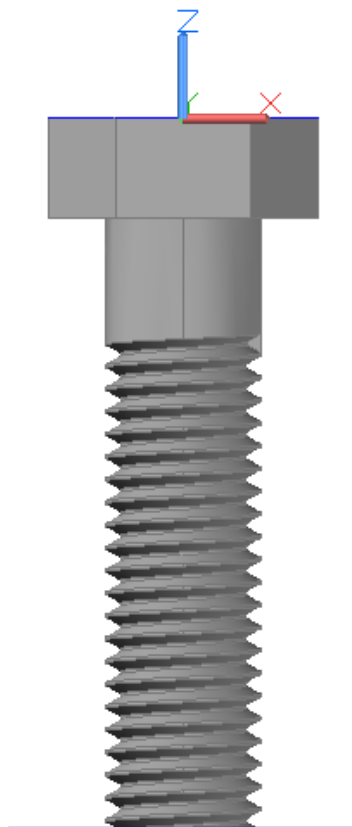

Figure Step 16
Step 16 Slice the bolt and delete the end. (Figure Step 16)